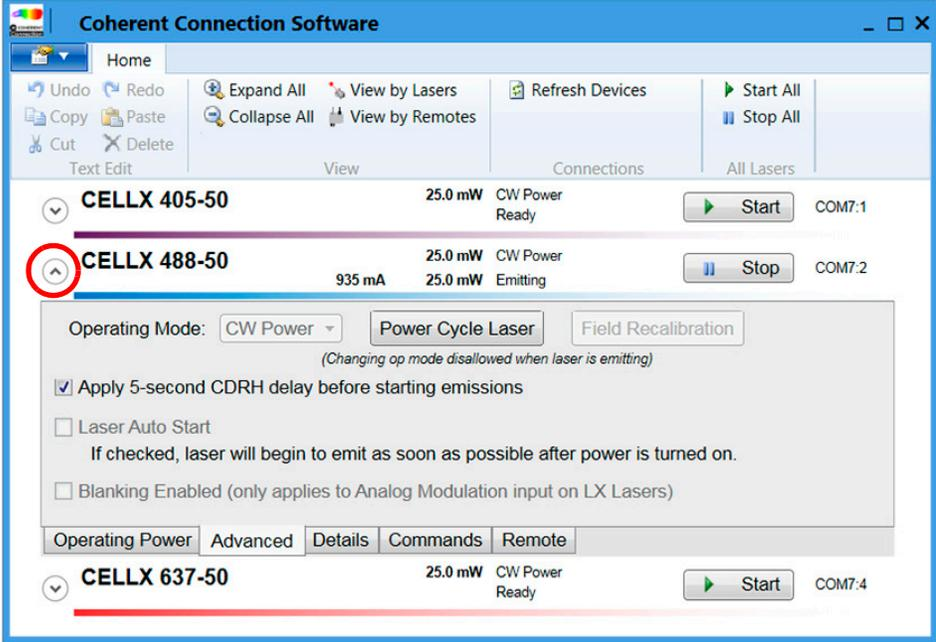

Figure 7-4. Home Page–Show Details for One Laser
- To expand detailed information for only one laser, as shown circled in Figure 7-4, click the down arrow at left of the laser name.